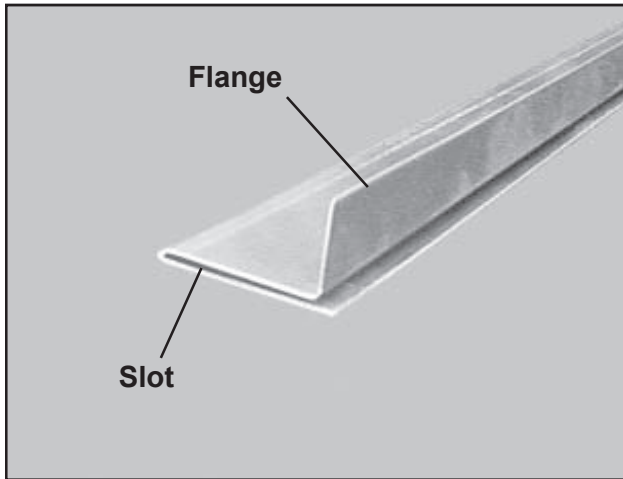

Figure 42. End Panel Upright
1. Notice the slot in the end panel upright (Figure 42).